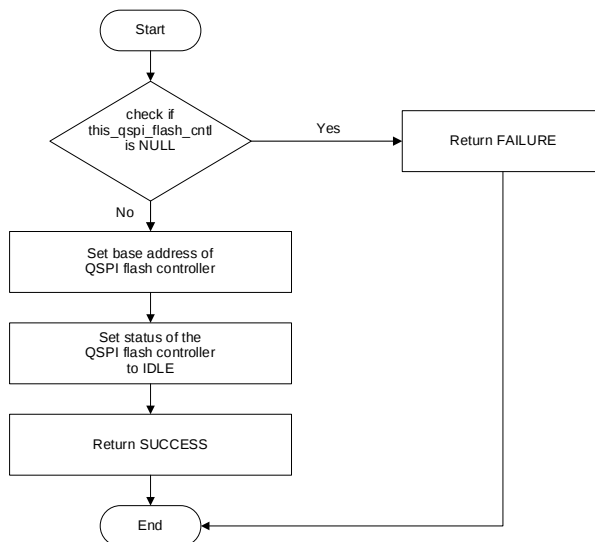

Figure 3.1. qspi_flash_cntl_init()
- Figure 3.1 shows the API flow diagram.